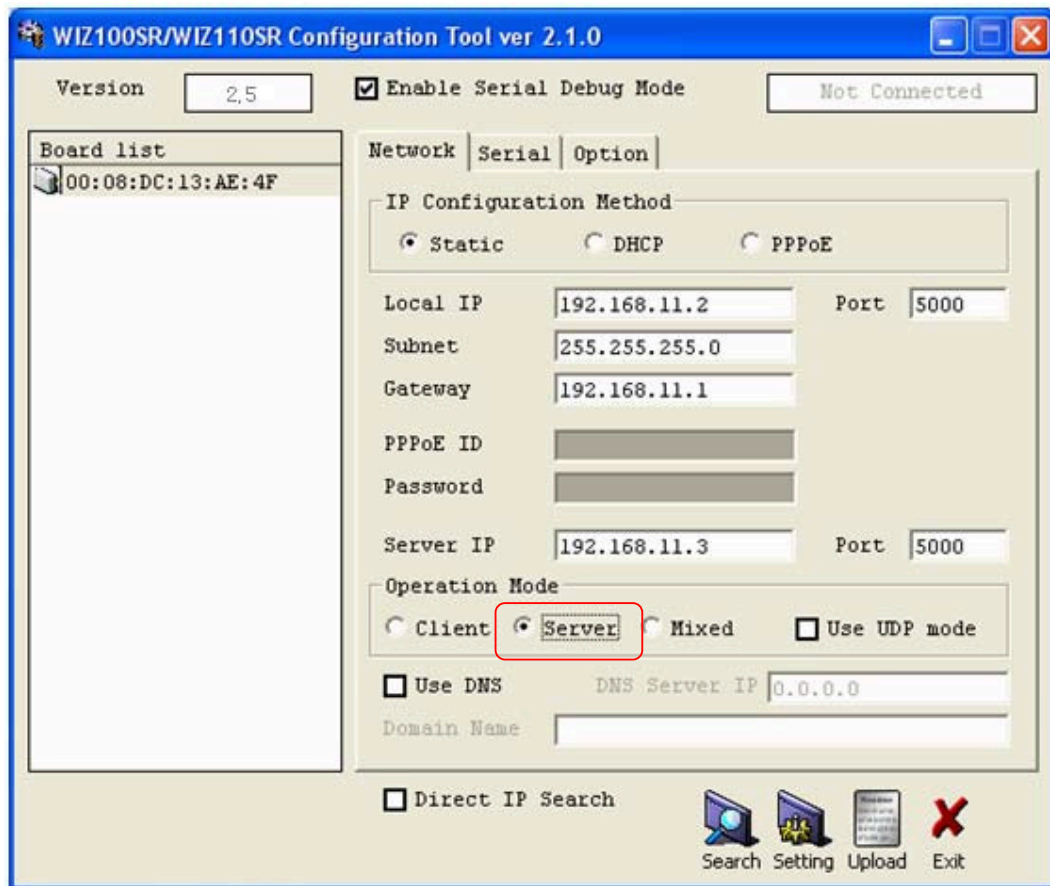

Figure 10. Select Operation mode for Password setting
- ③ Select a module shown in "Board list", and click "Upload" button.
- Before uploading through Ethernet, you should set the network information of WIZ100SR first by Configuration Tool program as shown above Fig 10. By using Ping test, you can check if network is correctly configured.